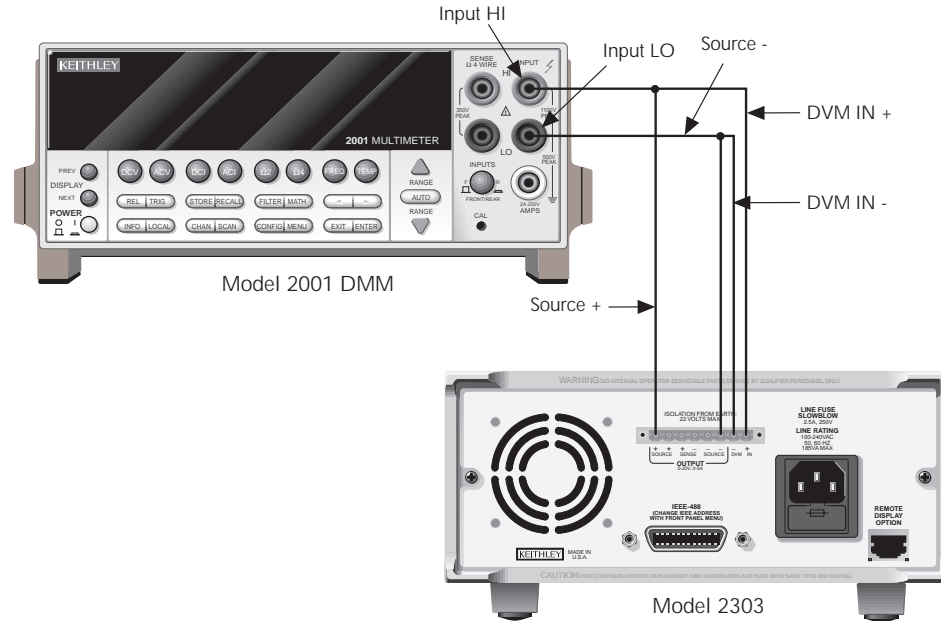

Figure 2-2
1. Connect both the OUTPUT SOURCE and DVM IN terminals to the digital multimeter, as shown in Figure 2-2. (Connect SOURCE + and DVM IN + to DMM INPUT HI; connect SOURCE - and DVM IN - to DMM INPUT LO.)